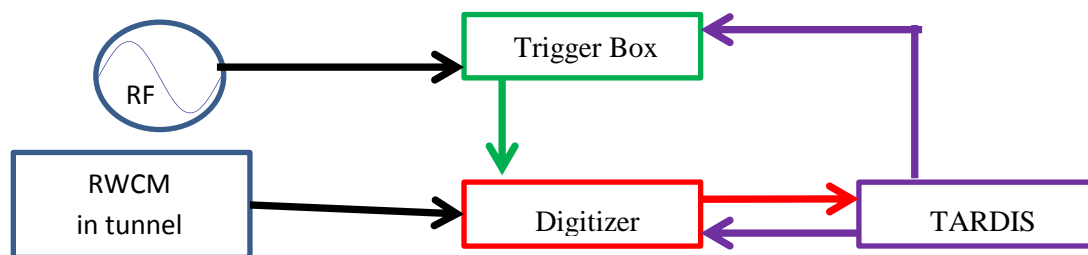

Figure 1: schematic of tomography set-up.
A qualitative introduction to the tomography algorithm used in TARDIS can be found here.² In the Main Injector (MI) and Recycler (RR) resistive wall current monitors (RWCM) detect the longitudinal charge profile of the beam. This signal can be digitized and recorded on a scope, located in MI60. The scope is triggered by a ‘Trigger Box’ or ‘Mountain Range Box’ connected to the RF and situated by the scopes in MI60. Once digitized the signal is sent to TARDIS for analysis. TARDIS can also talk to the scope and trigger box to set their parameters, Figure 1 shows a schematic layout of the system.